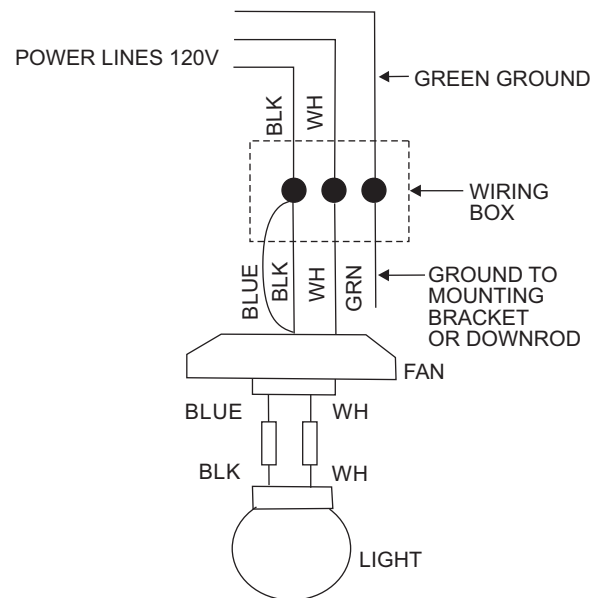

Figure 9
Step 1. Connect the fan supply (black) wire and light supply (blue) wire to the black household supply wire as shown in Figure 9.